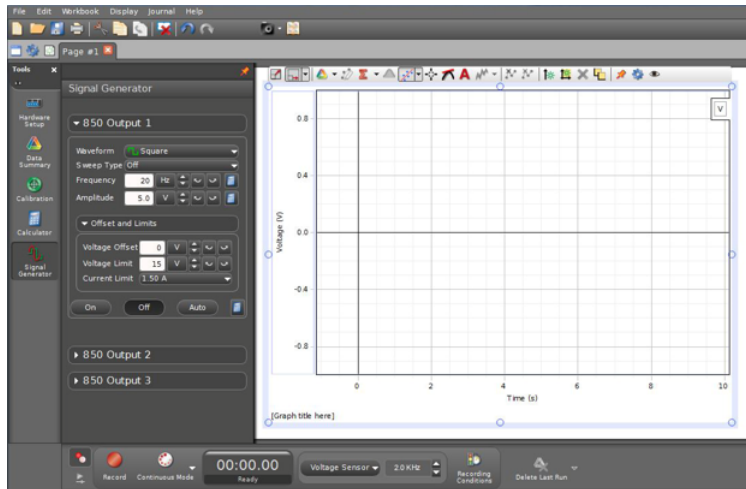

Figure 8: Opening Screen of Capstone File
- 6 Open the Capstone file associated with this lab. A screen similar to Fig. 8 is displayed.